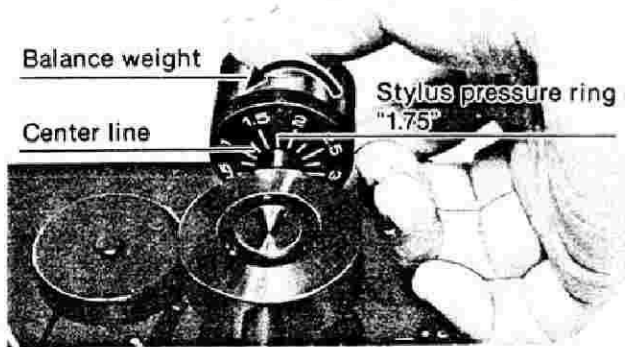

Fig. 5
- In the next step, turn the balance weight in the direction of the arrow to align the proper stylus pressure (1.75 g) of the unit with the center line. (See Fig. 5)